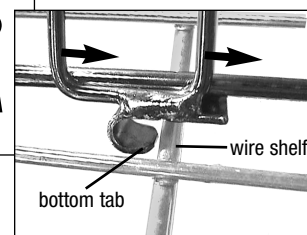

figure 7
Step 2) Pull divider toward the front of the shelf. Both bottom tabs should catch the wire shelf, as shown in *figure 7*.